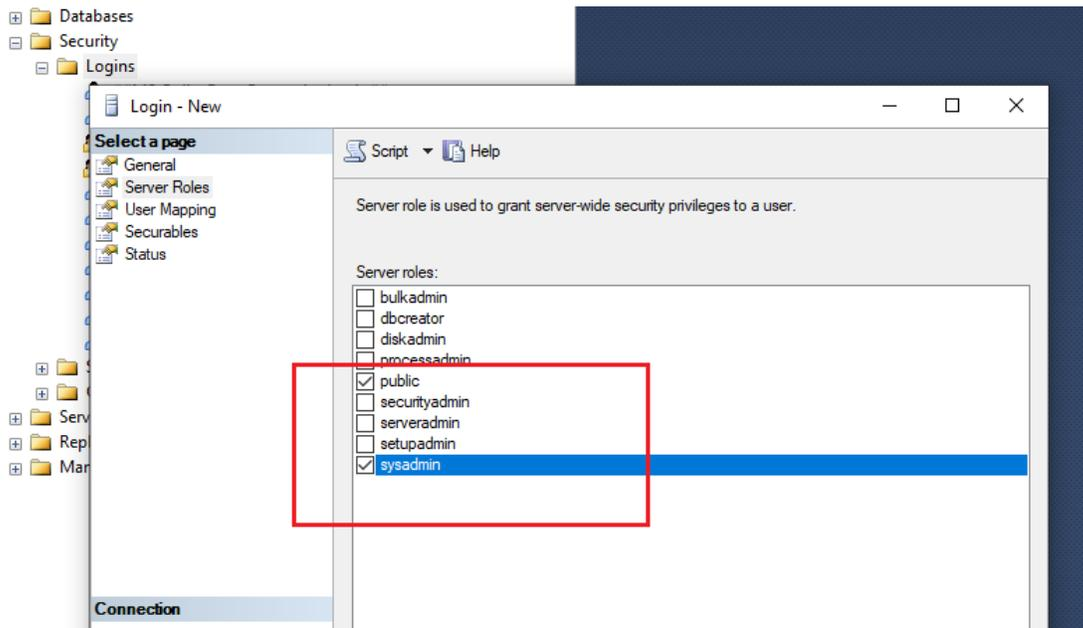

Figure 33
17. Add the SQL account to the sysadmin group. (Figure 33)